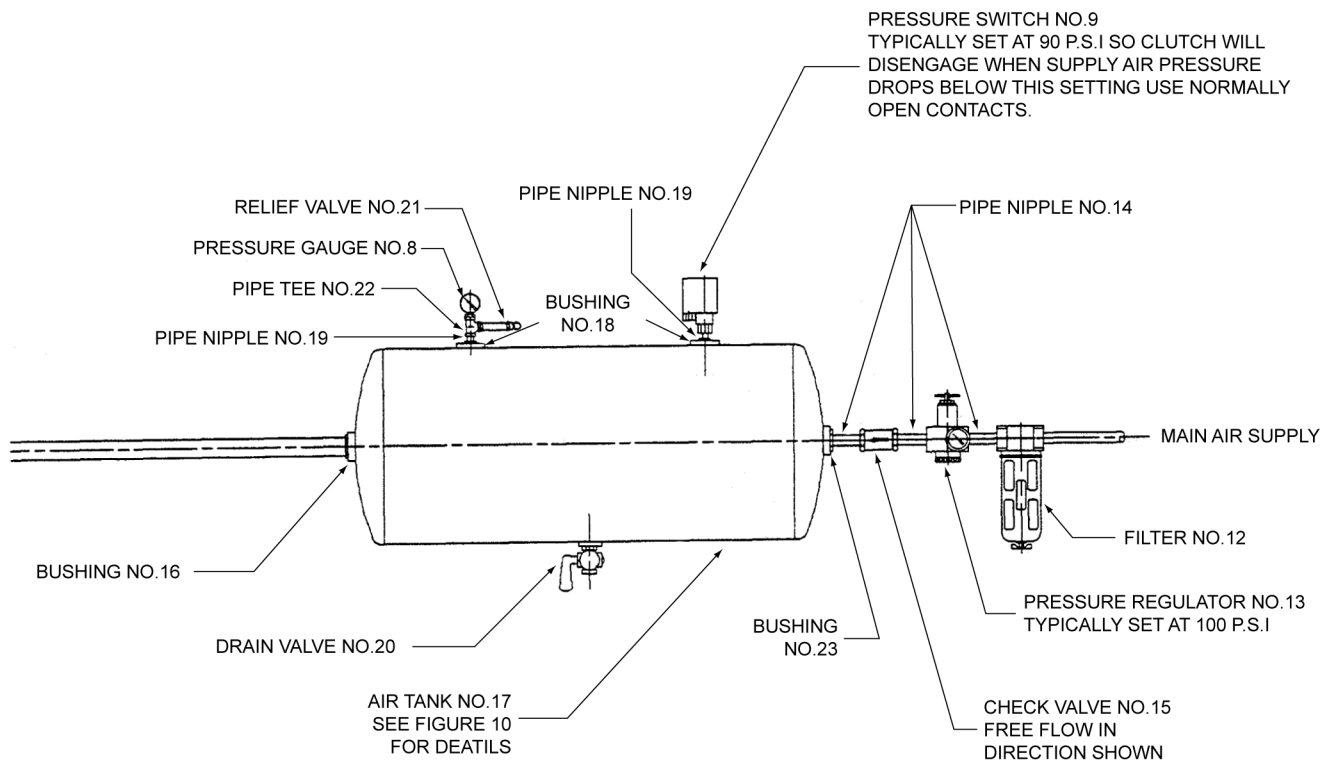

Figure 9 : AIR PIPING DIAGRAM FOR GRINDING MILLS
2.8.1 A typical air control system is shown on **Figure 9**. Since operating characteristics vary from one grinding mill to another, following are some general guidelines for installing the air controls.